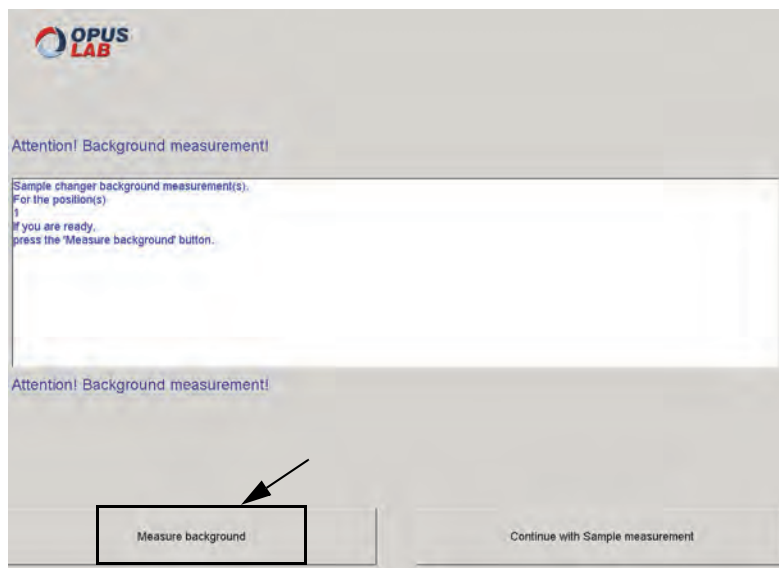

Figure 64: Sample changer - Background measurement
- 10) Click the *Measure background* button (figure 64). As soon as the background measurement has been finished, the white list box shows the measurement status.